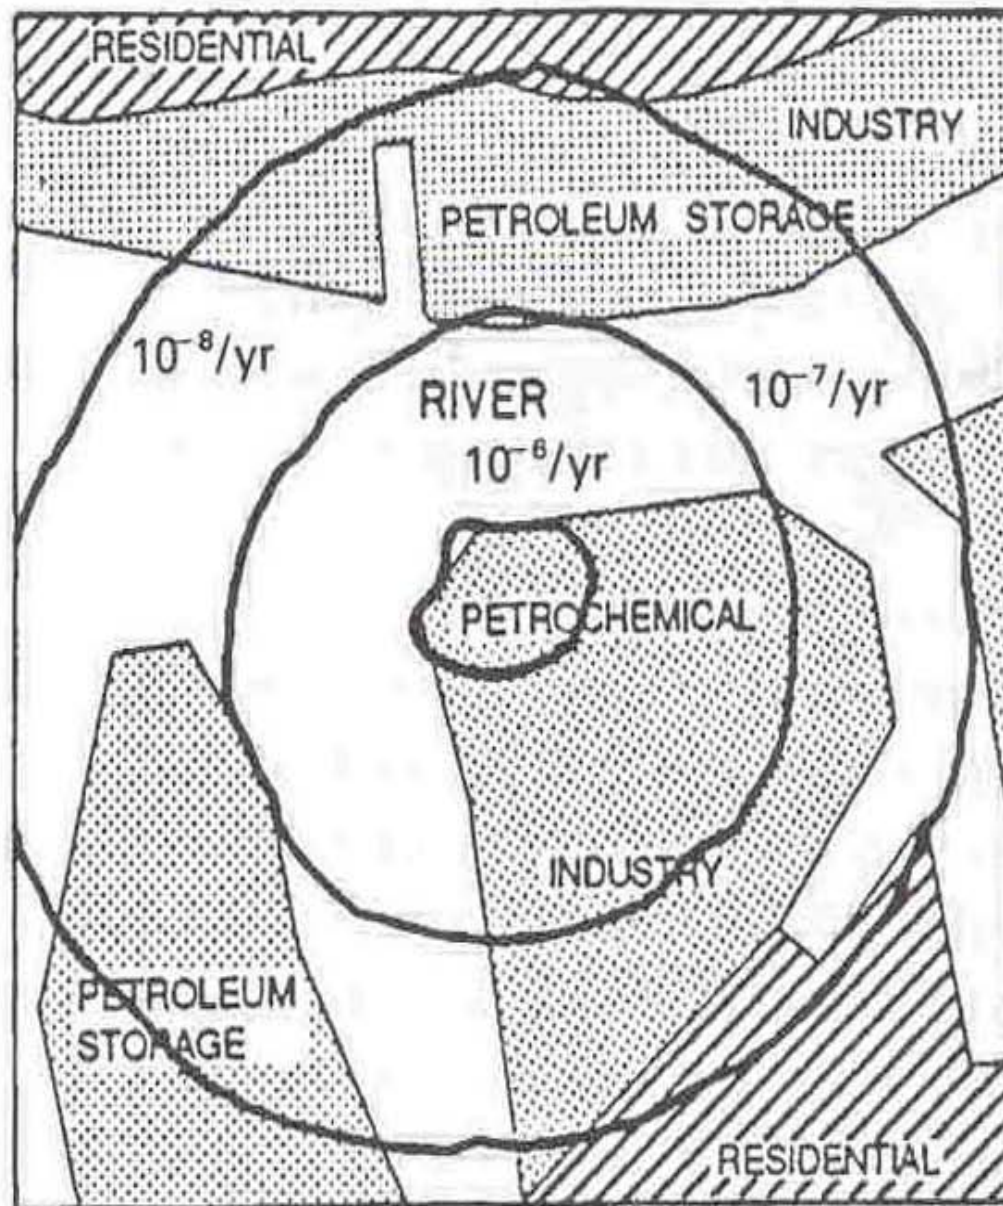
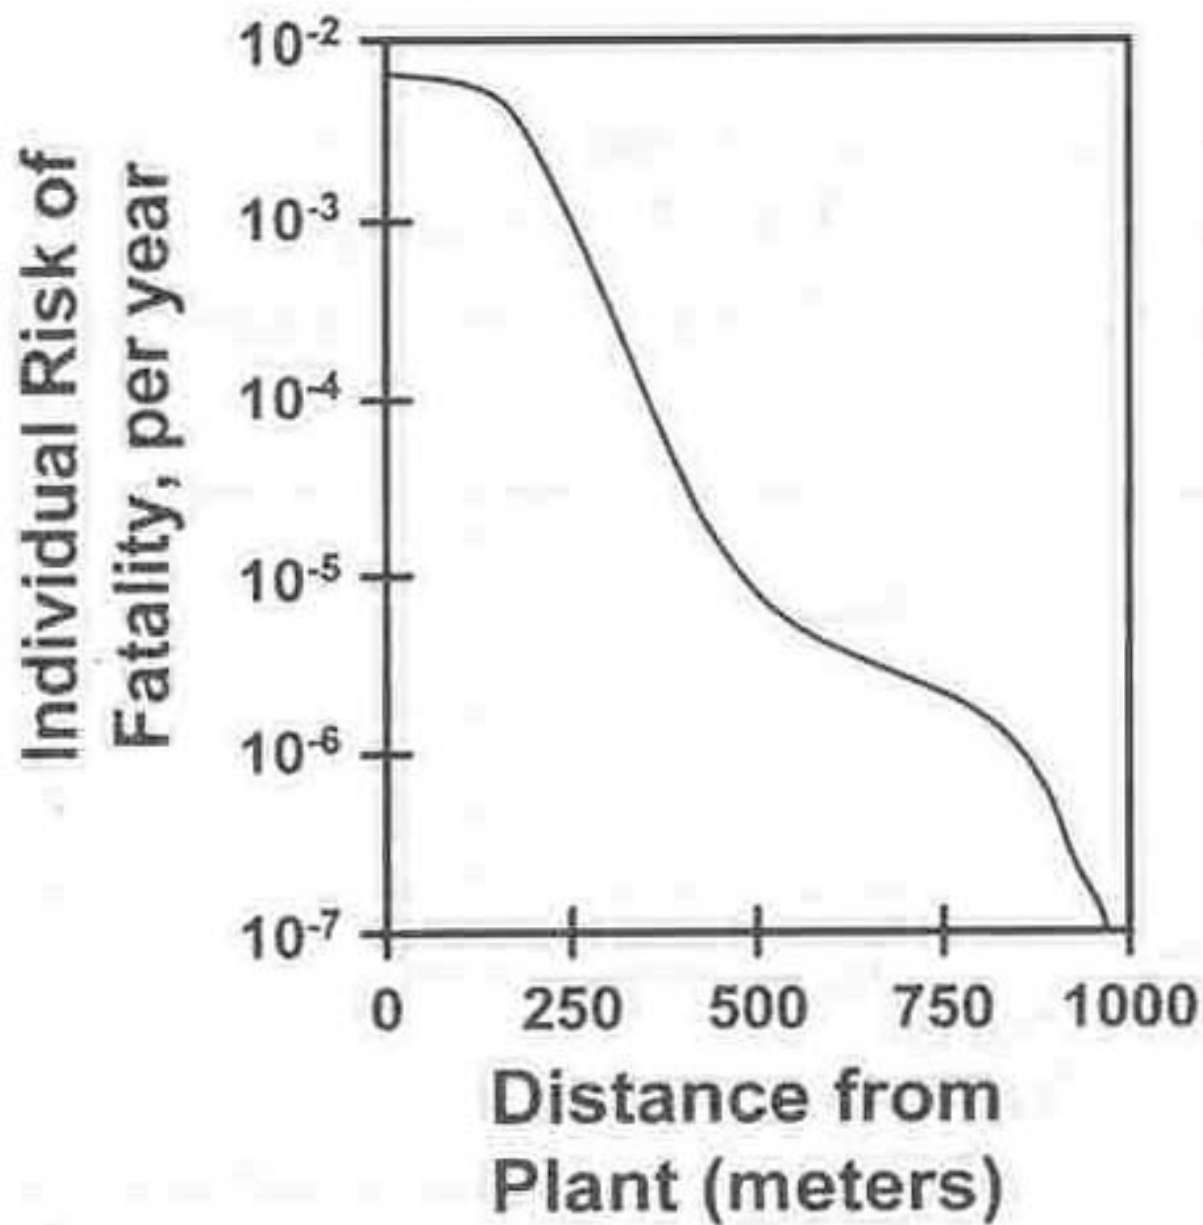

FIGURE 4.2. Example of an individual risk contour plot. Note: The contours connect points of equal individual risk of fatality, per year.
FIGURE 4.3. Example of an individual risk profile, or risk transect.
- Common forms are risk contour plots (figure 4.2) and individual risk profiles also known as risk transect (figure 4.3)